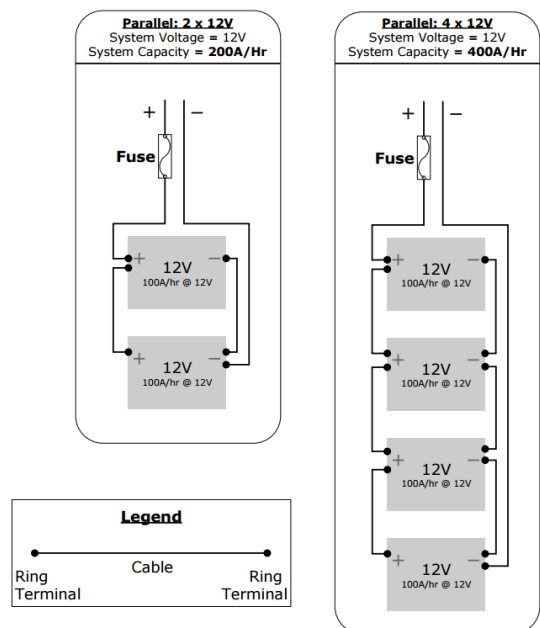

FIGURE 7
4. If installing more than one battery, connect batteries together as shown to charge and discharge batteries evenly. (Figure 7)